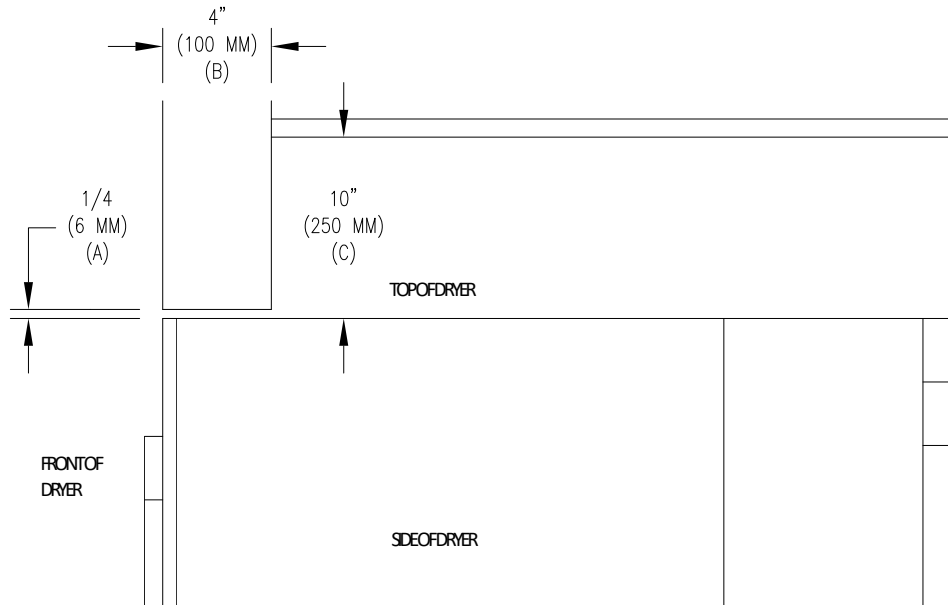

FIGURE 2-Vertical Clearance Dimensions
- V. Top             Refer to Figure 2 labeled "Vertical Clearance Dimensions".